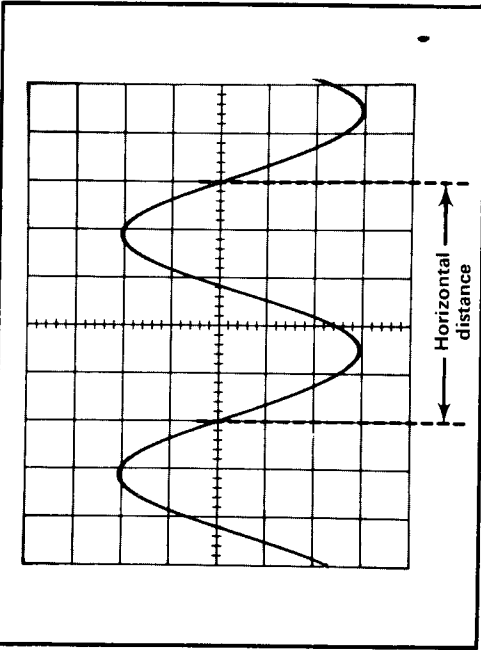

Fig. 4. Measuring the time duration between points on a waveform.
Example. Assume that the distance between the time measurement points is five divisions (see Fig. 4) and the TIME/DIV switch is set to .1 ms with the magnifier off.
5. Set the TIME/DIV switch to the fastest sweep rate that displays less than ten divisions between the time measurement points (see Fig. 4).
Example. The frequency of the signal shown in Fig. 4 which has a time duration of 0.5 millisecond is: